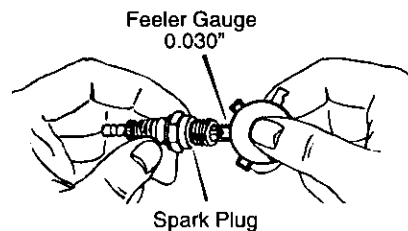

Figure 13
2. Check the **spark plug** gap with a **feeler gauge** and reset gap to 0.30" if necessary. See Figure 13.